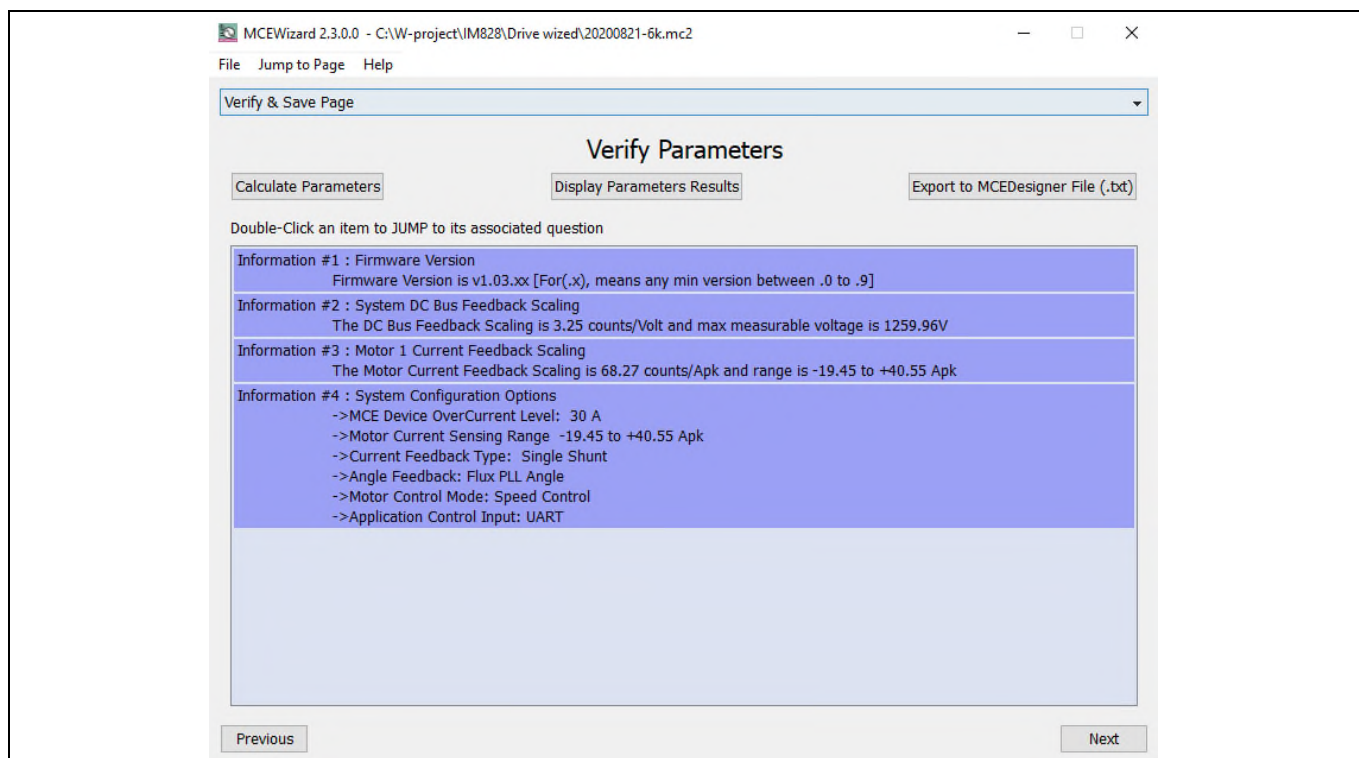

Figure 5 Verify and save page of the MCEWizard
4. Connect EVAL-M1-101T’s M1 20-pin interface connector (J2) to power board (for example EVAL-M1-IM828-A, see Figure 5).
After all the MCEWizard questions are answered, the “Verify & Save Page” will be shown as in Figure 5.